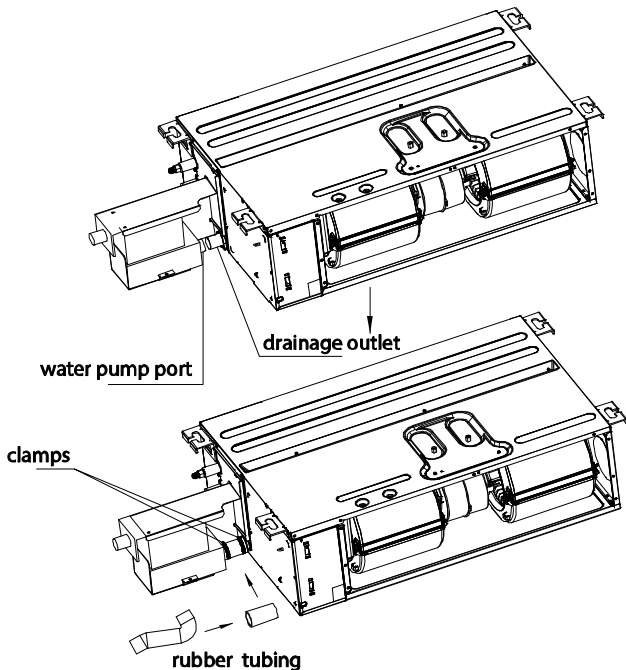

Fig. 19 – Condensate lift pump installation sizes 09–12
- c. Connect the drainage outlet and condensate lift pump using the rubber tubing and secure it with clamps on both ends, as shown on Figure 19.